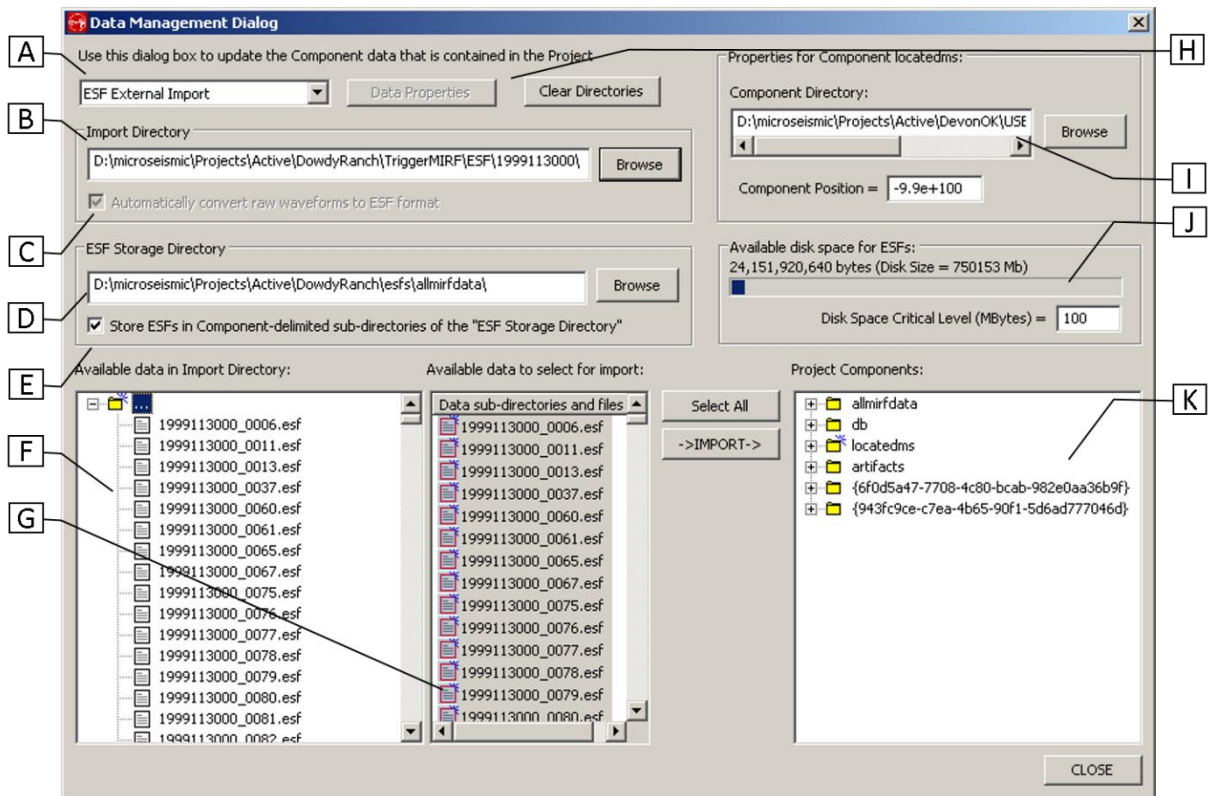

Figure 5-28: The InSite Data Management Dialog
This Dialog box (Figure 5-28) allows the user to import data into InSite. A number of data formats (Table 3.1) are currently recognised.
1. Choose what type of data (Table 5.4) is to be imported and select this in the Data Type Drop-down Box. Complete the Data Properties Dialog if applicable for the data type used to make additional settings. (Figure 5-28)